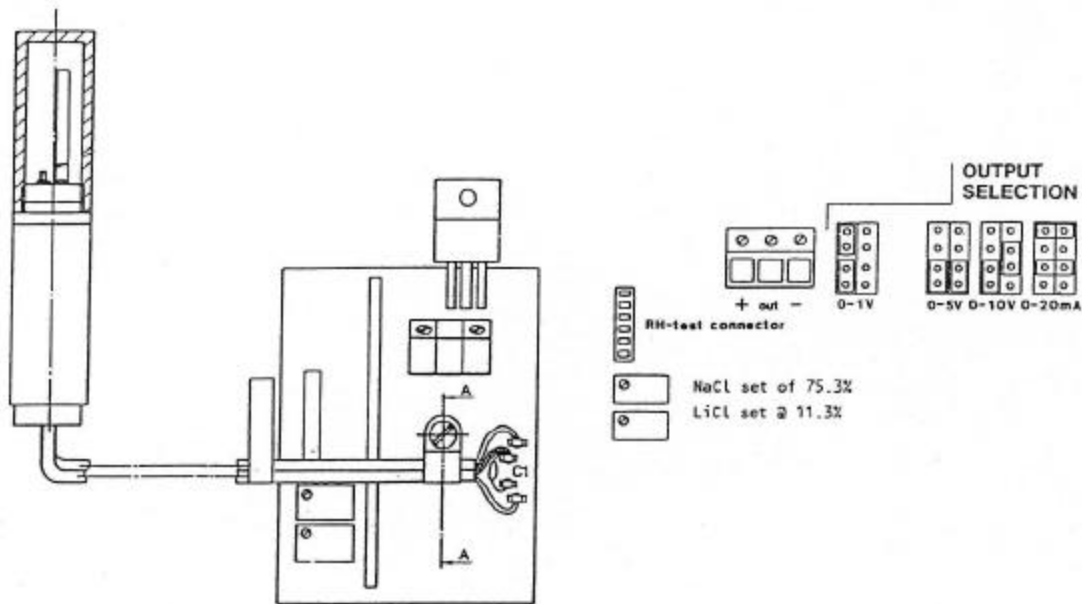

Figure 5.1-2 Model 552 R.H. Sensor calibration adjustment location
4. Read the temperature and relative humidity. Compare the reference unit reading with the level displayed on the previously calibrated Humidity Controller display. They should be within $\pm 2\%$ R.H. of each other. If not adjust the "1-point RH-calibration" (zero offset) control as shown in Figure 5.1-2 to obtain the correct reading.